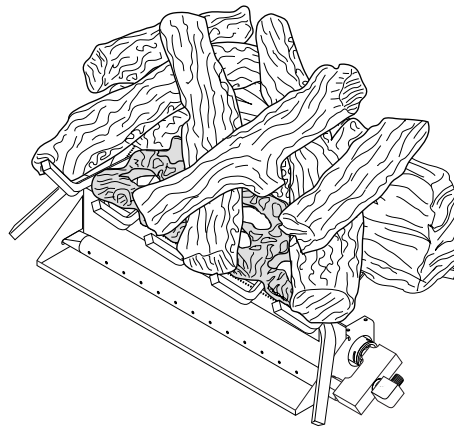

Figure 21 - Installing Logs
4. Place the top layer of logs as shown in Figure 21.